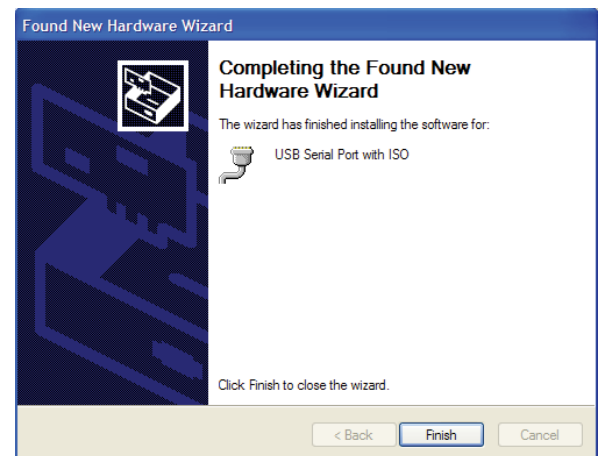

Figure 13. USB-to-UART Installation Complete
7. When the installation is complete, the window shown in Figure 13 appears.